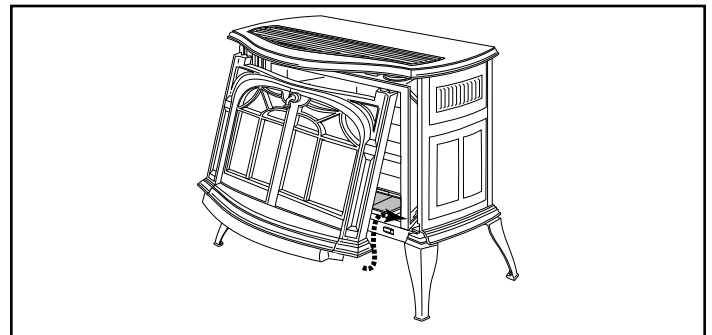

Fig. 20 - Replace the front panel.
- Replace the stove front by grasping it by the left and right edges. Lift it so that tabs on the back side of the top corners engage notches at the top forward corners of the stove sides. Then gently swing the bottom of the front panel to a vertical position, and lower it till prongs on its bottom left and right corners engage with notches cast into the tops of the forward legs. (Fig. 20) Test that the front is installed securely by grasping two of panel's vertical bars, and pulling the panel toward yourself. When the panel is in place properly you should not be able to pull the bottom of the front toward yourself without also lifting it.